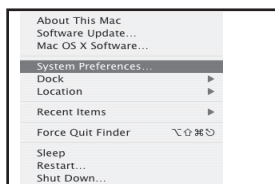

Figure 11
2. To select the Studio GT as the computer's audio input, open the System Preferences from the dock or the main Apple Menu (Figure 11).